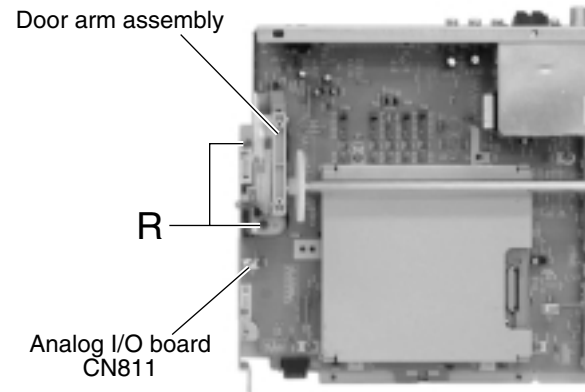

Fig.20
■ Removing the door arm assembly (See Figs.20 to 23)
2. Remove the four screws (R) that retain the door arm assembly, from the top of the unit.
3. Remove the two screws (S) that retain the door arm assembly, from the left and right sides of the unit.